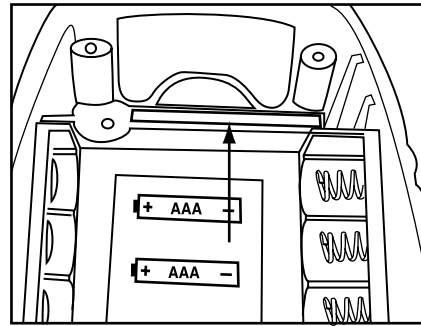

Fig. 38
5. Make sure that the “zebra strip” is in position (Fig. 38). Place replacement sensor pack into unit and replace screws.